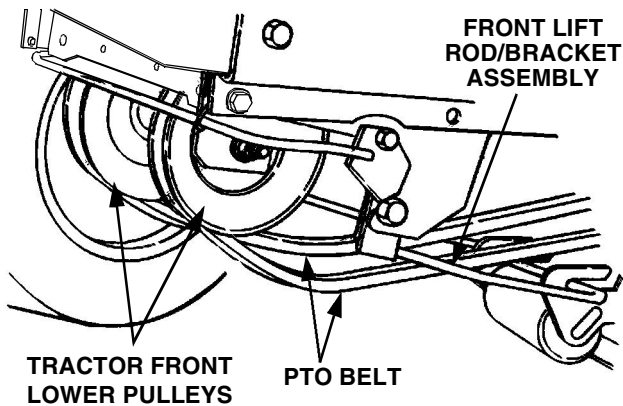

Figure 2-11
12. Open the tractor hood. From the front of the tractor pass the belt upward in front of the lower front pulleys and inside the tractor frame (Refer to Figure 2-11).
14. Twist the two sides of the PTO belt 1/4 turn inward to engage the narrow sides of the belt into the grooves of the two tractor front-lower pulleys (See Figure 2-11).